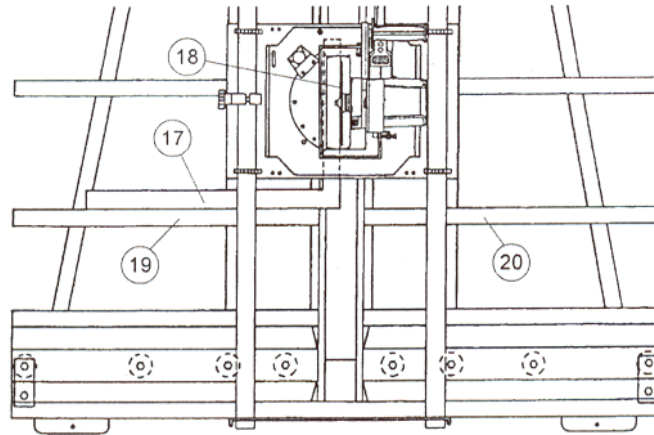

Figure 43: Adjusting the Crosscut Rulers
2. Loosen the carriage lock and lower the carriage to a comfortable working height, as shown in figure 43.
4. Use a square (Fig. 43, #17) that measures at least 14" (356mm) on one side. Line up one edge of the square with the tips of the saw blade, and the other edge of the square with the crosscut (horizontal) ruler. Slide the ruler (#19) so that its measure matches the measure on the square. A magnet holds the ruler in place and allows the ruler to be adjusted to various blade types. To prevent unauthorized adjustment, clear tape can be wrapped around the ruler and frame.